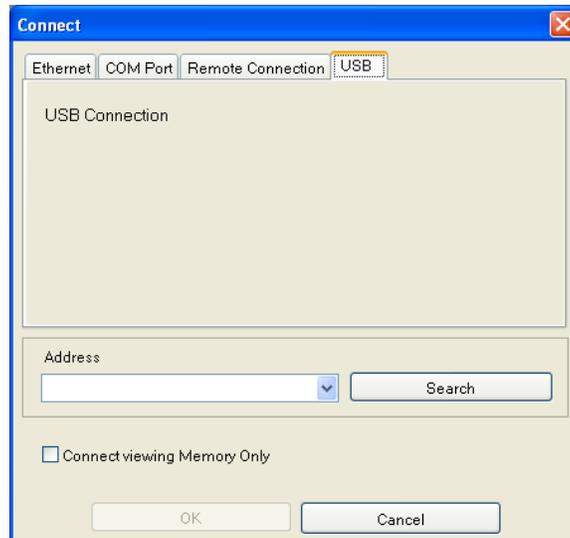

Figure 6-11. Connection Window, USB Tab
7. The *Connect* dialog box appears as shown in Figure 6-11.